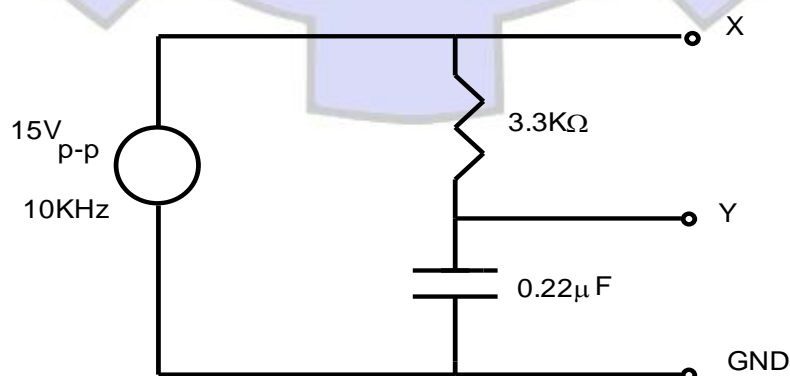

Figure.6
1. Set-up the circuit shown in figure.6, connect the probes to the indicated points. Measure the phase angles between these two signals and draw them.